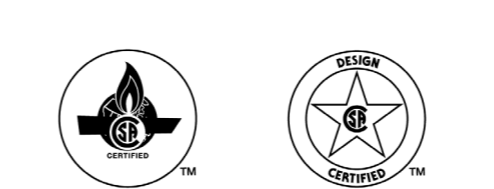

Fig 1
2. SIKKERHEDS-INFORMATION (fig. 1)
2. SAFETY INFORMATION (fig.1)
- Ensure that the appliance seals (1) are in place and in good condition before fitting the gas cartridge.